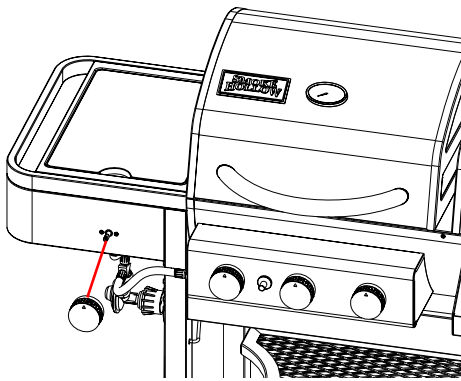

Fig. 29
Procedure: Refer to Fig. 29, Place (1) Control Knob over the Side Burner Valve Stem, making sure to align the flat portion of the stem with the flat portion in the Knob and push the Control Knob onto the valve stem until it is firmly seated.